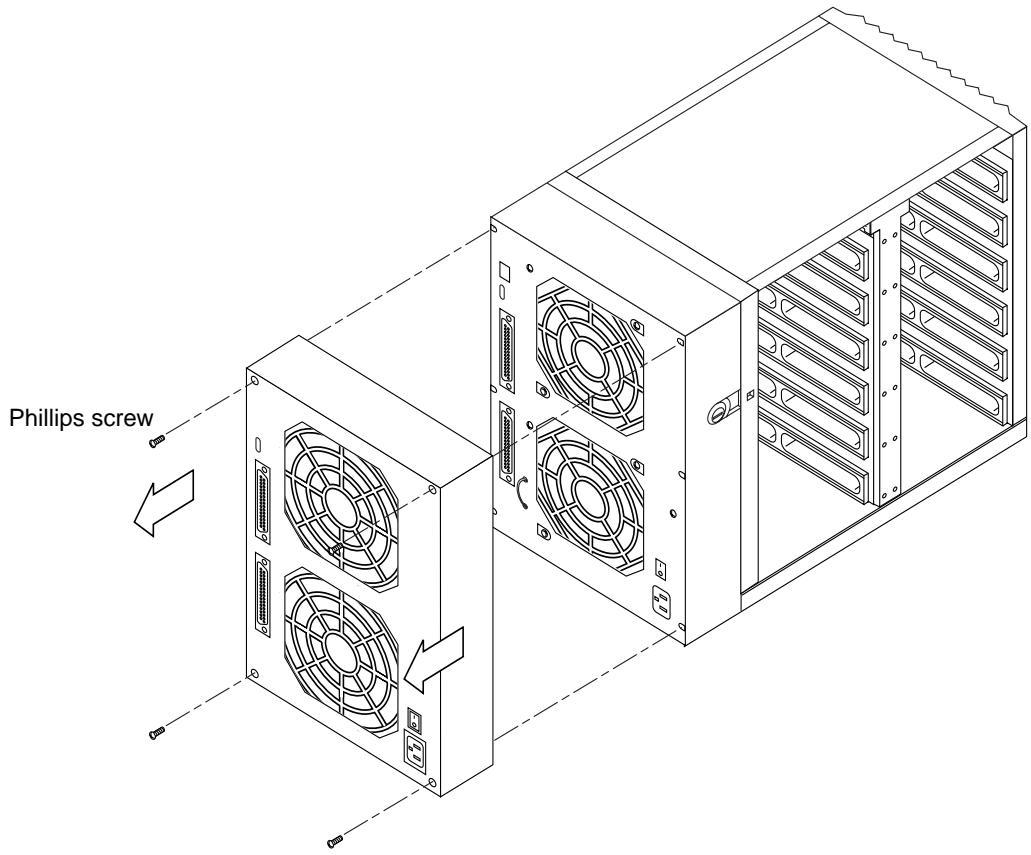

FIGURE 2-4 Removing the Back Cover
- 4. Remove the three screws and the lock block that hold the back cover (FIGURE 2-4).**
- 7. Insert and tighten the three corner screws and install the lock block to hold the back panel to the enclosure (FIGURE 2-4).**